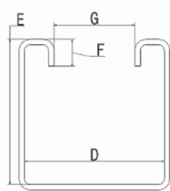

Fig2 : rail specifications
- Rail specifications : steel strut rails with design and dimensions according to Tab2 and Fig2.